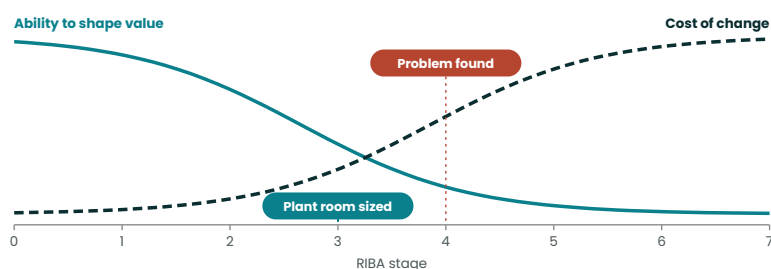

FIGURE 12 The later a decision moves, the more it costs and the less it can shape. Illustrative, after the widely used MacLeamy curve.
- The cost-of-change curve in Figure 12 follows the widely used curve attributed to Patrick MacLeamy. It is illustrative and carries no data.